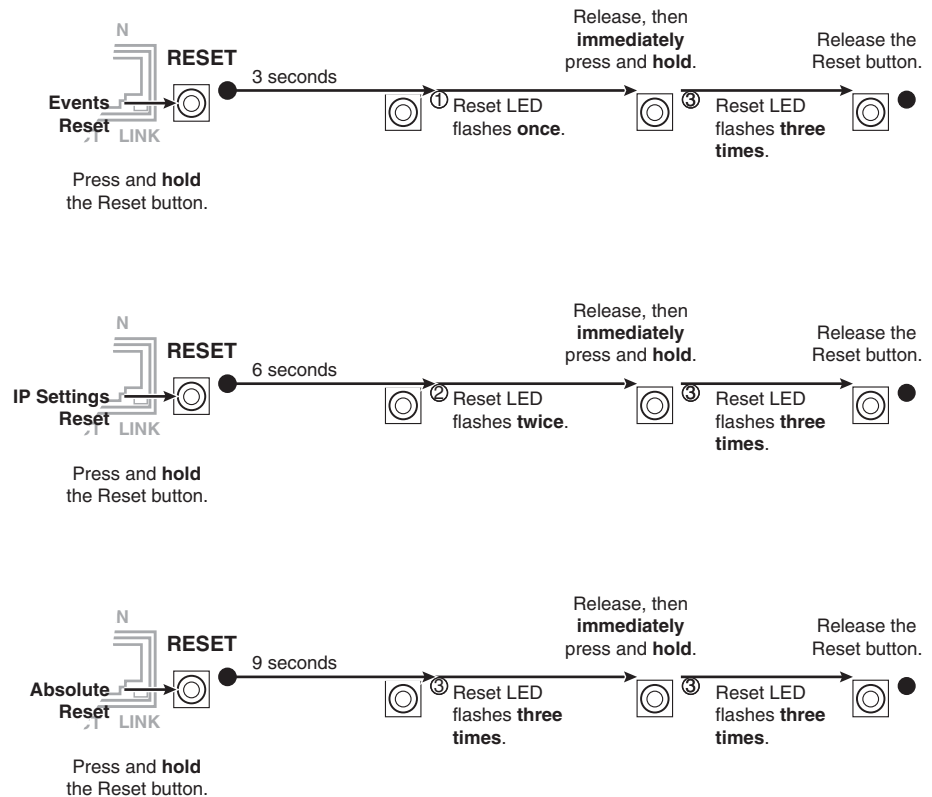

Figure 3-67 — Whole switcher and absolute resets
1. Press and **hold** the Reset button until the front panel Video and Audio buttons blink once (events reset), twice (system reset), or three times (absolute reset) (figure 3-67).